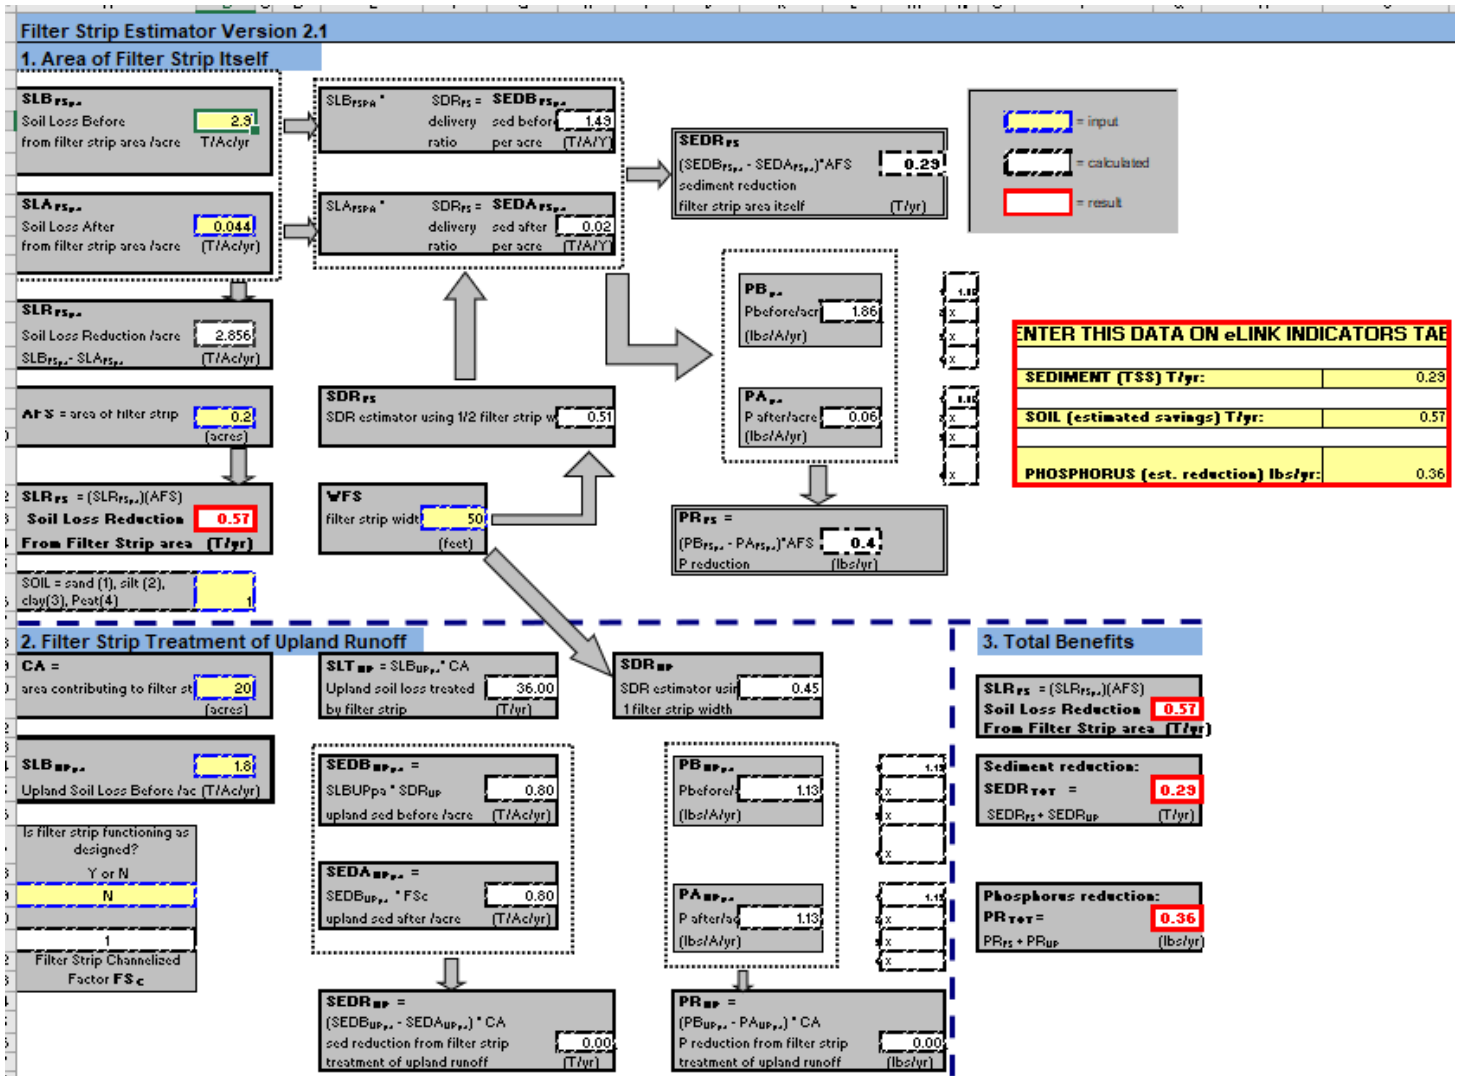

Figure 15. Filter Strip Tab
- Open the Filter Strip tab in the BWSR Water Erosion Pollution Reduction Estimator (Figure 15, next page).